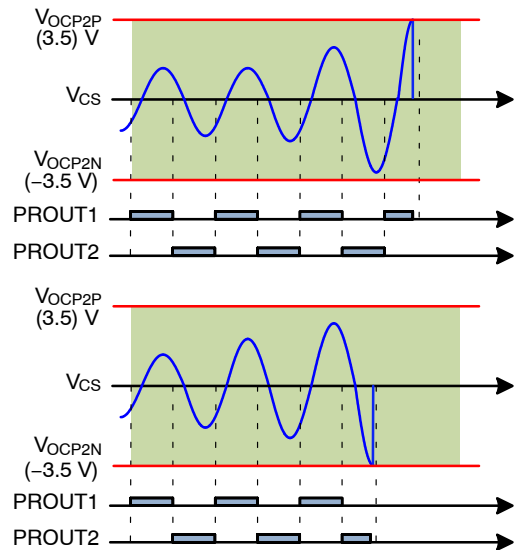

Figure 66. Over-Current Protection of the CS Pin
6. Over-Current Protection (OCP2): When  $V_{CS}$  is higher than 3.5 V or lower than -3.5 V, over-current protection (OCP) is triggered. The instantaneous primary side current is also sensed on CS pin. Since the OCP thresholds on the CS pin are 3.5 V and -3.5 V as shown in Figure 66, the CS signal is typically obtained from  $V_{SENSE}$  by using a voltage divider as illustrated in Figure 61. 150 ns debounce time is added for OCP.